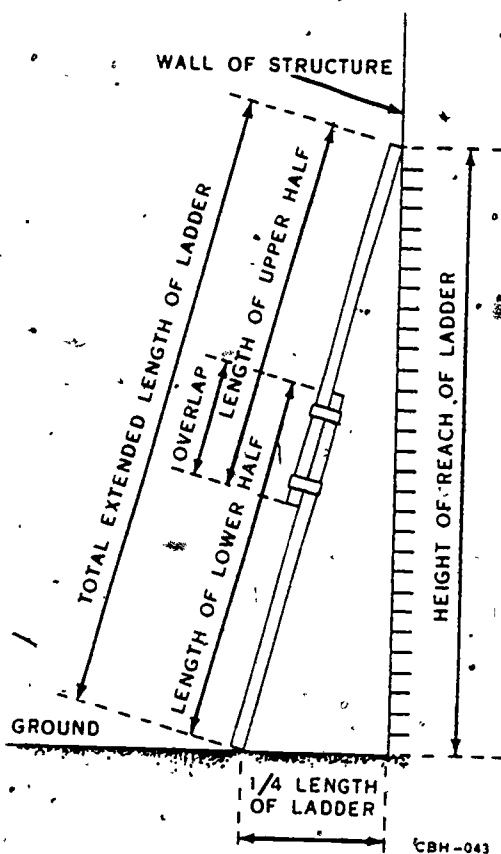

Figure 2-8 The extension ladder
**Extension ladder.** The extension ladder, as shown in figure 2-8, consists of two or more sections. These sections overlap and can be extended by pulling the rope. They are available in lengths up to 60 feet. Extension ladders are required by the plumber to do work of short duration, such as inspect piping, open and close valves, and check vents on roofs.